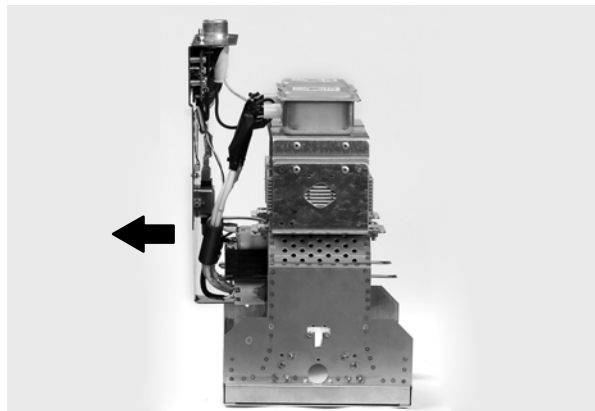

Figure 3 Removing the Transformer Bracket (External Blower Version Shown)
8. See Figure 3. Pull the the transformer bracket from the wave guide assembly far enough out to access the wiring connections.